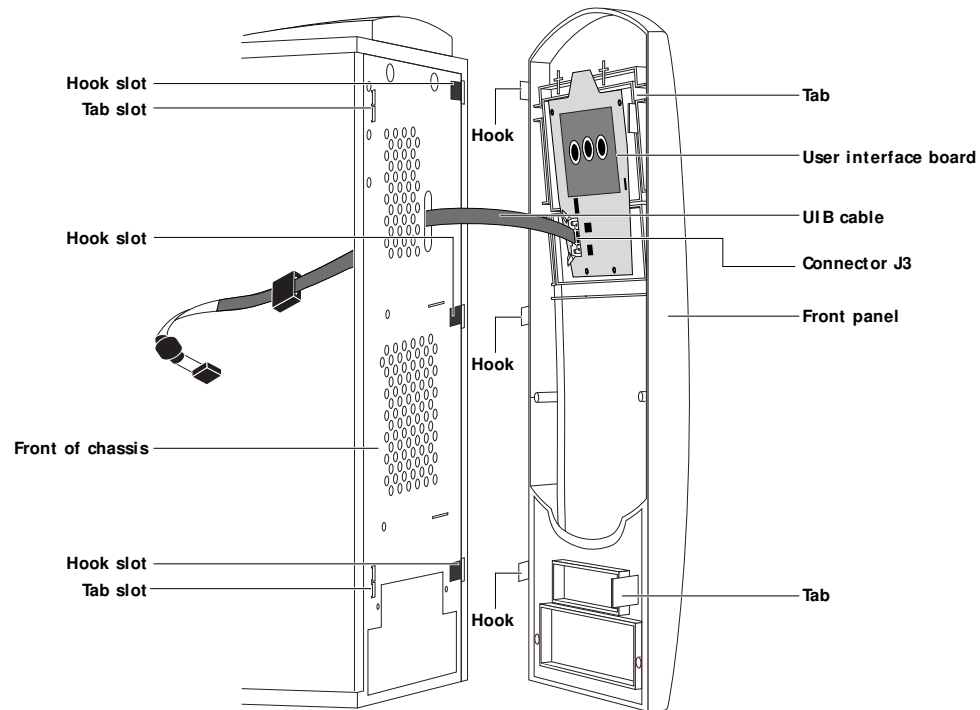

FIGURE 4-4 Removing the front panel
3. Release the tabs that secure the front panel to the chassis by gently pressing them inward and pulling the front panel away from the chassis (see Figure 4-4 on page 4-7).
3. **Angle the front panel so that the three hooks line up with the three hook slots (see Figure 4-4).**